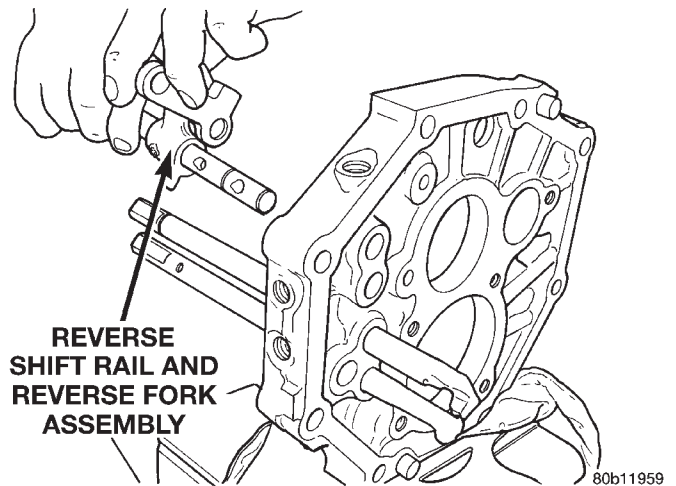

Fig. 81 Install Reverse Shift Rail
(9) Install reverse shift rail into intermediate plate and position reverse arm bracket to intermediate plate (Fig. 81).